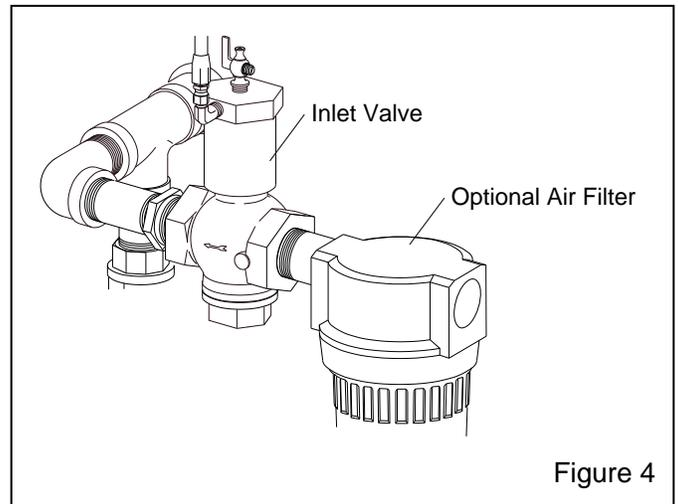

Figure 4
**2.4 Install Optional Air Filter (Moisture Separator) - Figure 4**
**2.4.1** Install a compressed-air filter to the inlet valve as shown in Figure 4. It is recommended that a filter be installed at this location to remove moisture from air before it enters the machine. If problems with moisture persists after installing the filter, a dryer or aftercooler may be required in the air-supply line.